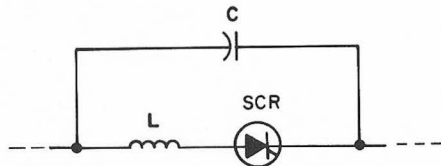

Figure 47. Capacitor connected to suppress RF
3. To slow down the rise of current, an inductance coil may be connected in series with the SCR. A capacitor connected across both the coil and the SCR as shown in Figure 47 will reduce the sudden voltage step applied to the line. Connections in the circuit of Figure 47 should be as short as possible, particularly the capacitor leads. Typical values are: 0.1 mfd, 400-volt paper/mylar capacitor (G-E MAL-4P1), and 75 microhenrys inductance. The inductor must carry the full SCR current, hence should be wound with a large-size wire.